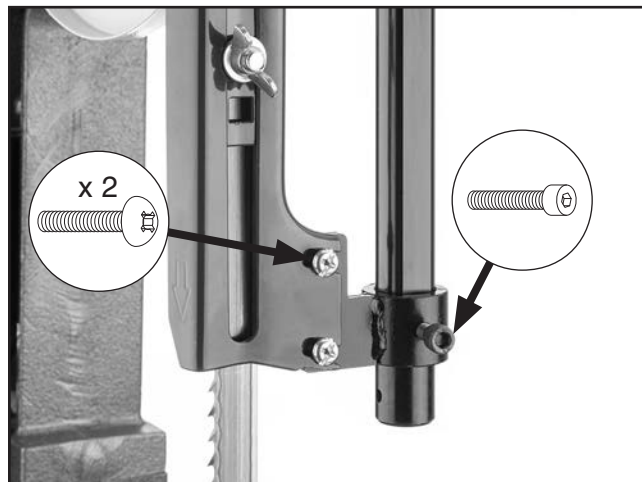

Figure 3. Guard bracket installed on guide post and blade guard.
5. Slide guide bracket on guide bar, then attach bracket to blade guard with (2) 1/4"-20 x 1/4" Phillip head screws (see **Figure 3**).
6. Secure guide bracket to guide post with cap screw removed in **Step 4** (see **Figure 3**).